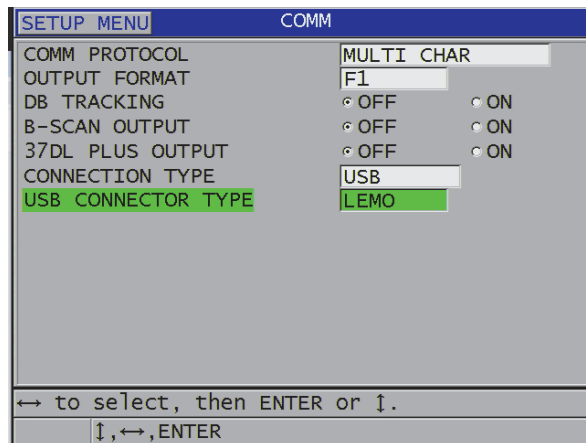

Figure 14-1 Selecting USB and connector type
6. In the **COMM** screen, set **CONNECTION TYPE** to **USB** (see Figure 14-1 on page 262).